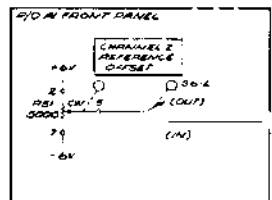

Figure 7-1. Channel 2 Summing Amplifier Partial Schematic
- ⓓ CHANNEL 2 SUMMING AMPLIFIER: Change A2S6-L CHANNEL 2 REFERENCE OFFSET pushbutton connections as shown in partial schematic Figure 7-1.